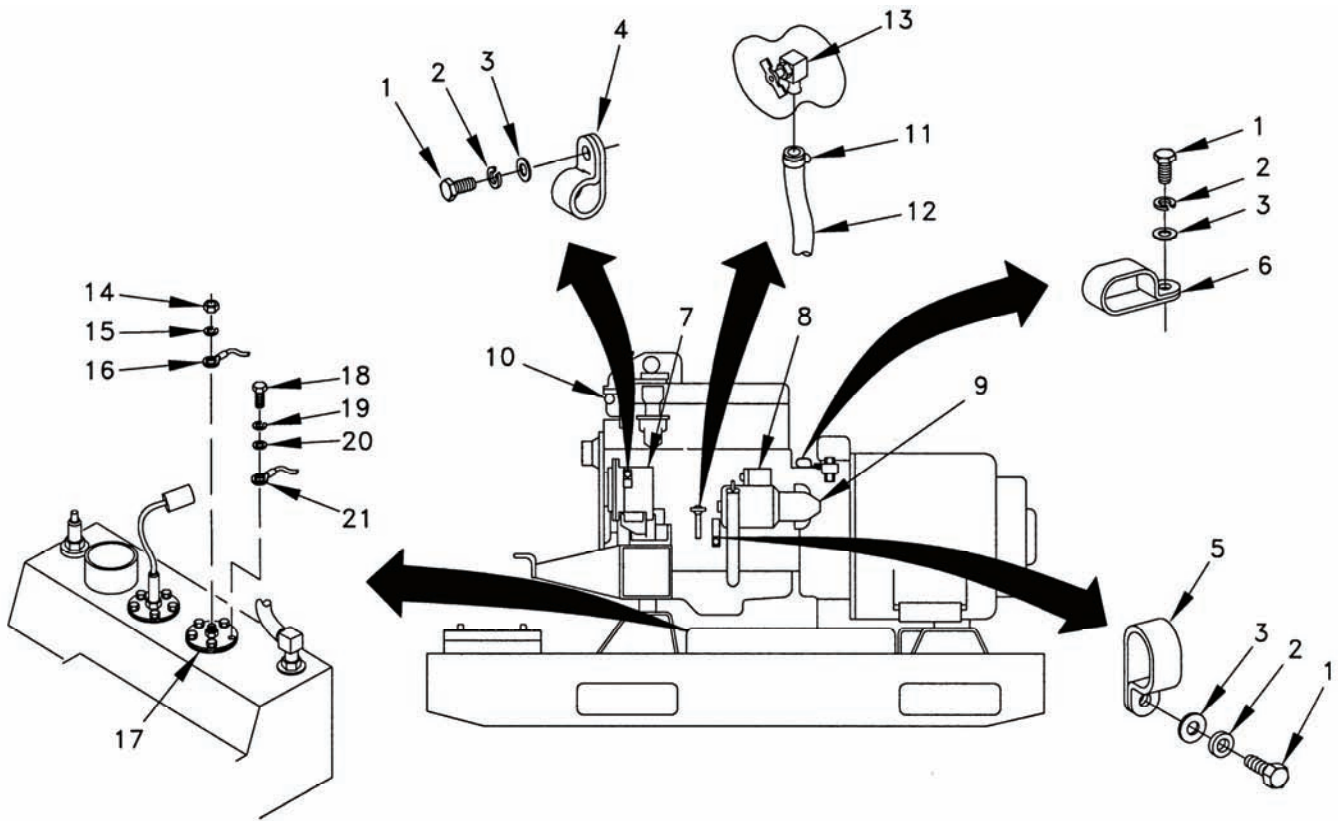

Figure 5-19. Left Side Engine Components.
- a. On left side of engine, remove three bolts (1, Figure 5-19), lock washers (2), washers (3), and clamps (4, 5, and 6) securing harness to engine. Discard lock washers (2).
- b. On left side of engine, tag and disconnect electrical leads from battery charging alternator (7), starter solenoid (8), starter motor (9), and coolant high temperature switch (10). Move engine electrical harness to rear of generator set and clear of engine.
- c. Loosen clamp (11) and disconnect coolant drain hose (12) from engine block coolant drain valve (13).
- d. Remove nut (14), lock washer (15), and wire (16) from center post of fuel sending unit (17). Remove screw (18), lock washer (19), flat washer (20), and wire (21) from fuel sending unit. Move wiring away from engine as much as practical for engine removal. Temporarily reinstall hardware to sending unit for wiring installation later. Discard lock washers (15 and 19).